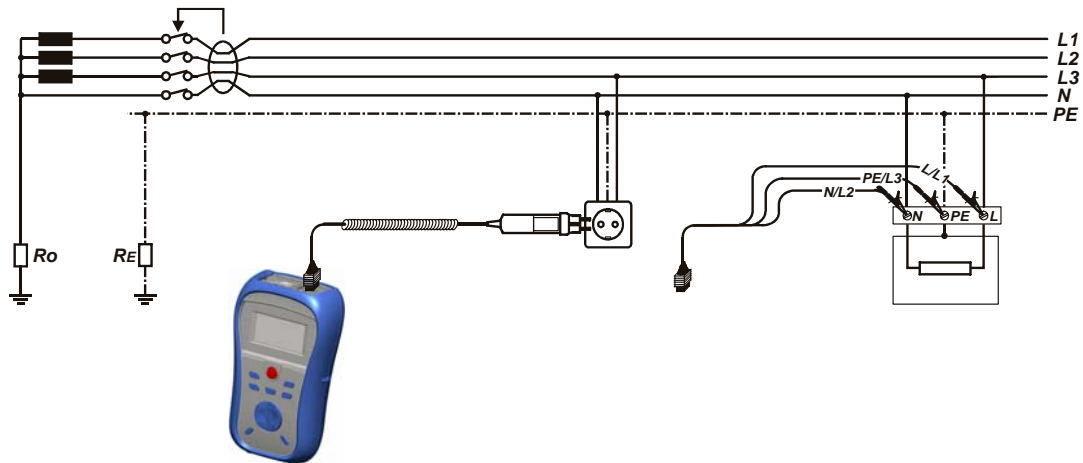

Figure 5.2: Connecting the plug commander and the universal test cable
- ❑ **Connect** test leads to the item to be tested (see figure 5.2).
- ❑ **Connect** test leads to the to the item to be tested (see figure 5.2).
- ❑ **Connect** test leads to the to the item to be tested (see *figure 5.2*).
<ul style="list-style-type: none"> ❑ Select the RCD function using the function selector switch. ❑ Set sub-function AUTO. ❑ Set test parameters (if necessary). ❑ Connect test cable to the top of the instrument. ❑ Connect test leads to the to the item to be tested (see figure 5.2). ❑ Press the TEST key to perform the test. 	Start of test